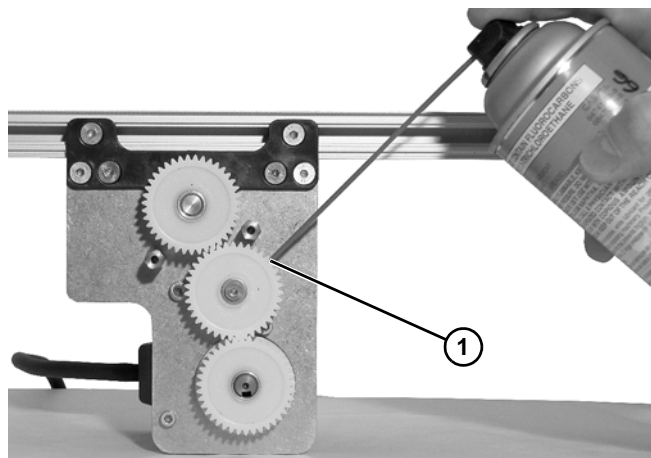

Figure 8
7. Apply a small amount of food grade grease to the teeth of the middle gear (**Figure 8, item 1**).